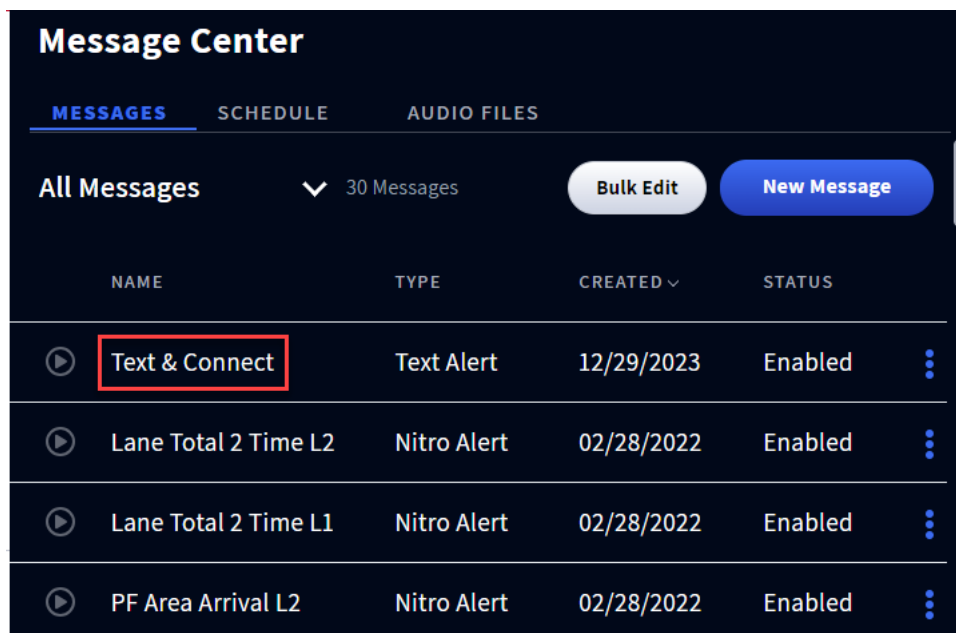

Fig. 8.8
- Once Voice Commands have been enabled, "Text & Connect" will appear in the NAME column on the Message Center>Messages page. See Fig. 8.8.